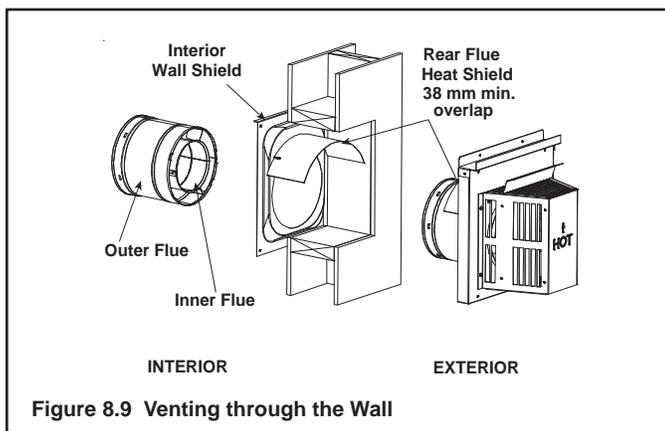

Figure 8.9 Venting through the Wall
- One section of the heat shield is attached to the wall shield. The other is attached to the termination cap in the same manner (see Figure 8.9).
- The small leg in the shield rests on top of the flue to properly space it from the pipe section (see Figure 8.9).
- **DO NOT** remove the heat shields attached to the wall shield firestop and the horizontal termination cap (shown in Figure 8.9).